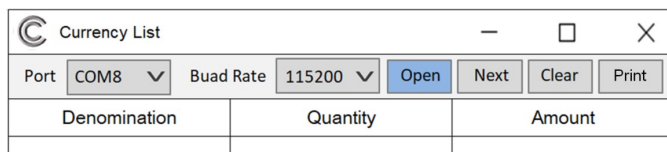

Figure 65
2) Select the serial port and the baud rate, which must match the baud rate selected on the machine, as shown in Figure 65 below.